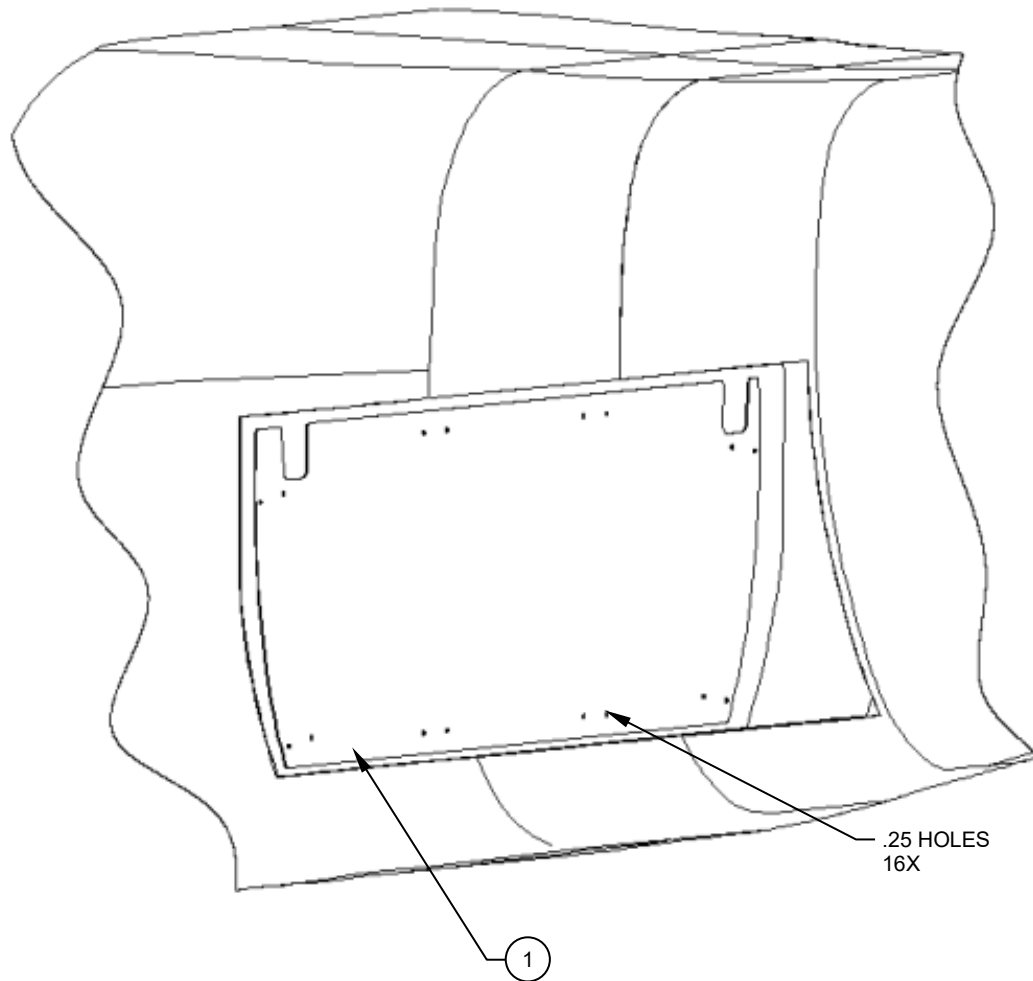

Figure 2
2. Pre-fit the Panel, Assy (Item 1) by lining up the exterior profile of the Panel, Assy (Item1), with the bulkhead panel. Reference Figures 2.
3. With the panel lined up use the pre-cut .25 holes and a felt pen to mark out the locations for the Velcro, Details (Items 5 & 6) and remove the Panel, Assy (Item 1). Reference Figure 2.